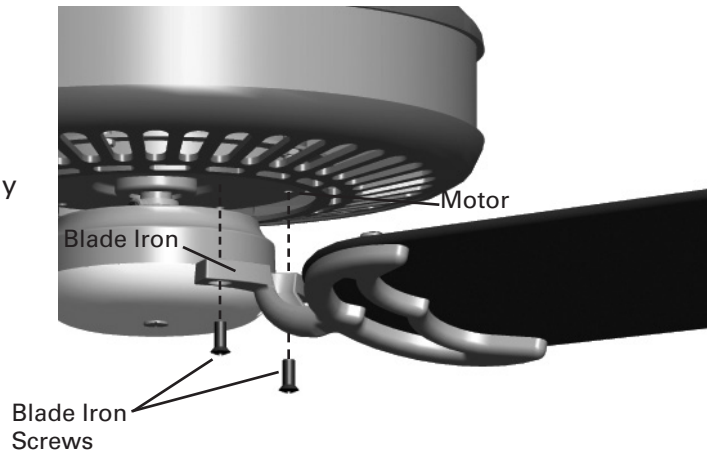

FIGURE 2
Step 1. Attach a blade/blade iron assembly to the motor by using two blade iron screws provided. Place the end of the blade iron on the motor as shown in Figure 2. Insert the screws one by one using the provided screwdriver. Tighten securely by hand only. Repeat for each blade/blade iron assembly until all five blades are attached to the fan.